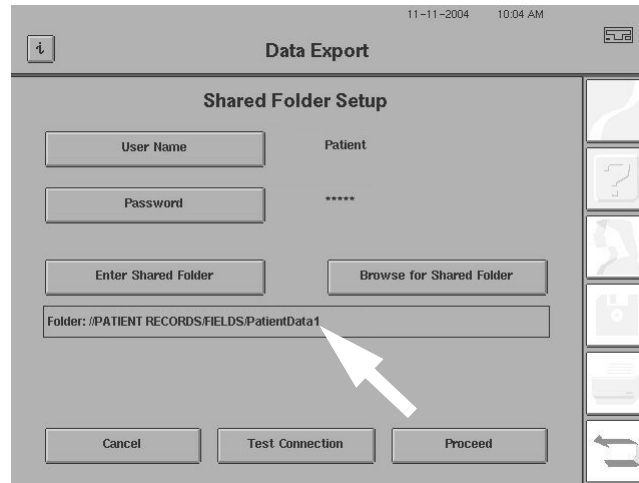

Figure I.14 Completed Entries for Shared Folder Setup
- 11** The name and location of the shared folder will appear in the outlined box (Figure I.14), below the Enter Shared Folder button.